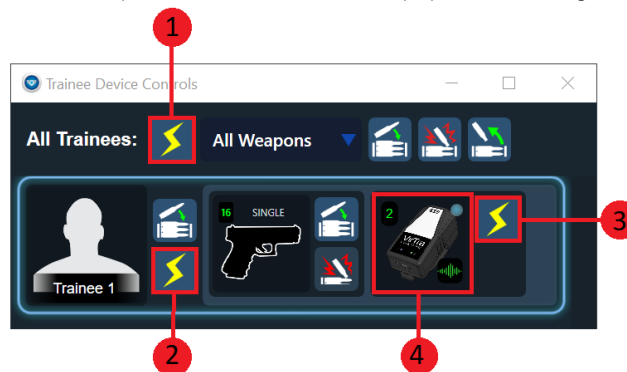

Fig. 13
- b. Trainee Flyout Breakdown. (See Fig. 13)